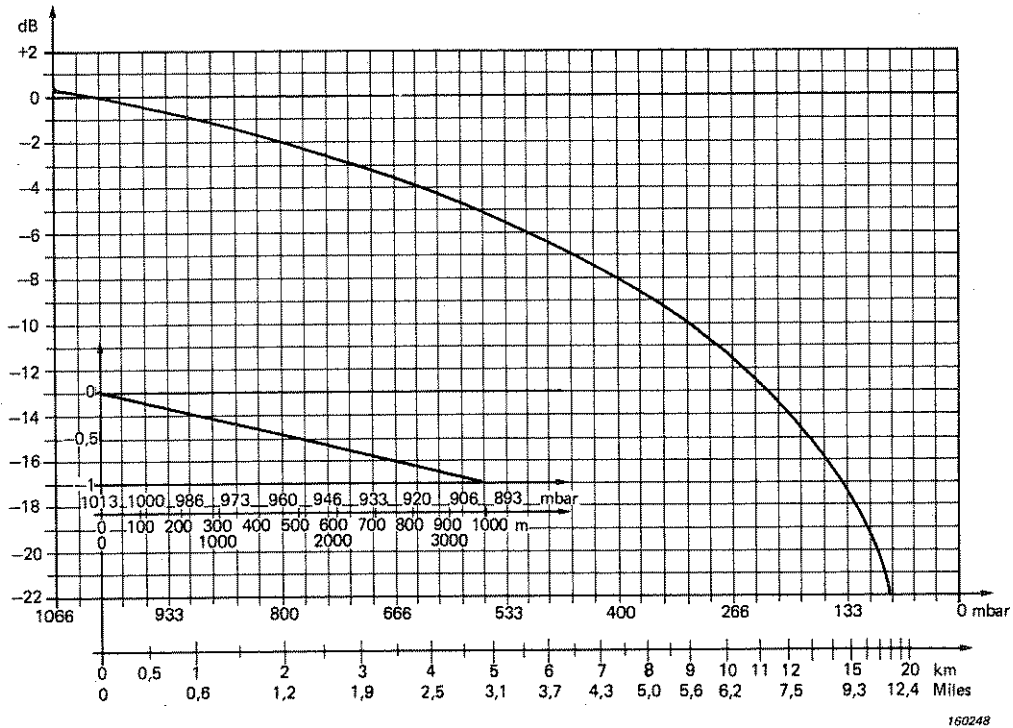

Fig.2.2. Correction curve for operation at low pressures or high altitudes
6. Adjust the sensitivity of the sound measuring equipment until the indication coincides with the SPL (RMS Sound Pressure Level) given by the calibration card supplied with the Pistonphone plus the dB correction for ambient pressure as indicated by the Barometer UZ 0001, or Fig.2.2. Use of the Barometer is explained in section 2.2.
above sea level. The inner scale, graduated from 790 to 950 mbar is intended to be used at altitudes from 600 to 2000 m (1800 to 6000 ft approximately). For variation of the ambient pressure above 2000 m and up to 18000 m i. e. down to 80 mbar, the correction curve given in Fig.2.2 can be used.